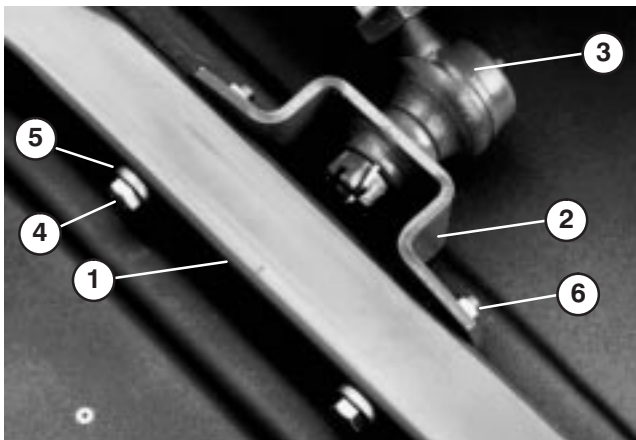

Figure 5
4. Secure ball joint mounts to each castor arm with (2) 7/16 – 14 x 3" lg. capscrews, 15/32" I.D. x 59/64" O.D. flatwashers and 7/16 – 14 flange nuts. Flatwashers to be positioned to outside of castor arm (Fig. 5).
5. Tighten large jam nut securing ball joint to lift arm (Fig. 5). When tightening jam nut, hold ball joint straight to permit proper oscillation during raising and lowering of cutting unit.